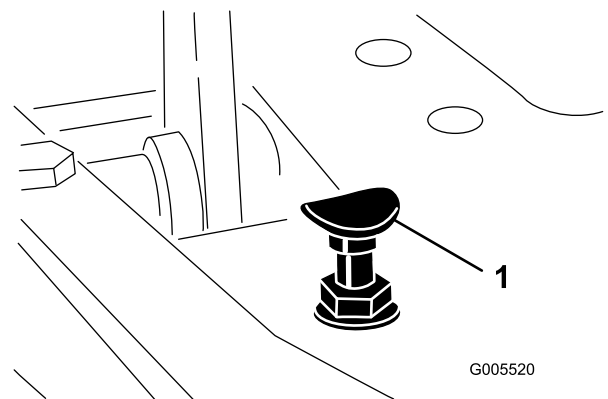

Figure 55
To obtain maximum transport speed, put the functional control lever in the transport position and press down on the traction pedal. If the pedal contacts the stop (Figure 55) before tension is felt on the cable, an adjustment is required:
1. Put the functional control lever in the transport position and loosen the locknut securing the pedal stop to the floor plate (Figure 55).